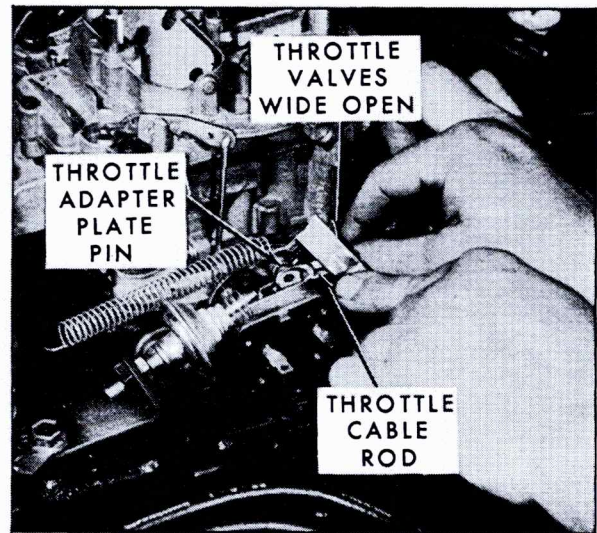

Fig. 6-92 Throttle Rod Adjustment - 693 Only
5. If cable rod fitting does not line up exactly with its connecting pin on throttle adapter plate, loosen two nuts at cable mounting plate on left rear of carburetor, and position cable backward or forward to allow exact alignment into throttle adapter plate hole, Fig. 6-92.